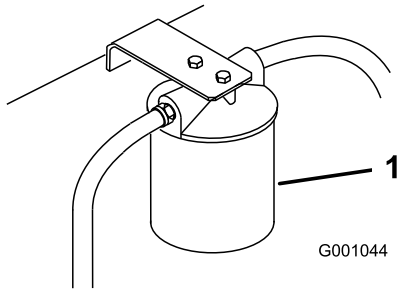

Figure 79
3. Place drain pan under filter, remove the old filter, and wipe the filter adapter gasket surface clean (Figure 79).